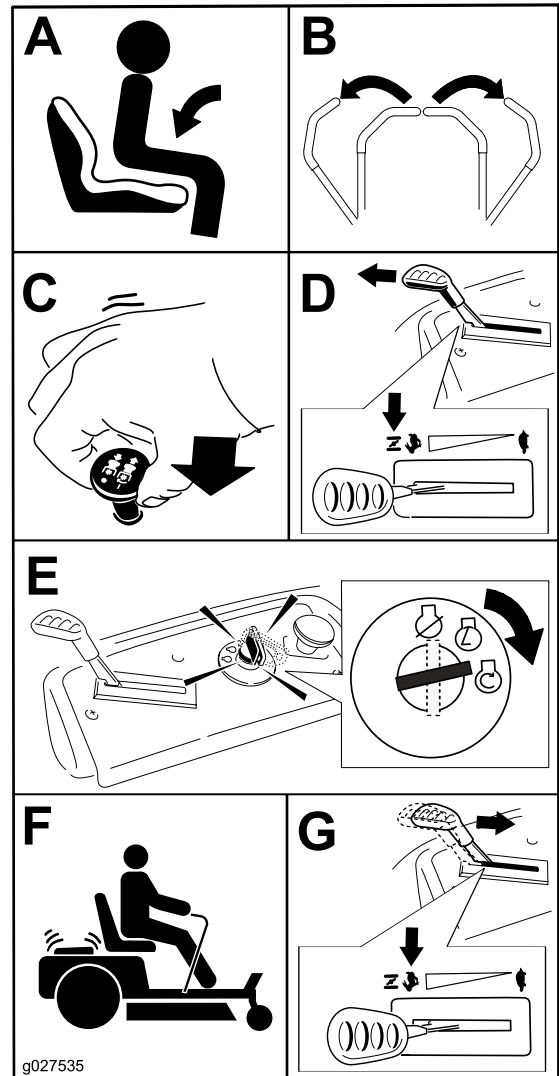

Figure 10
**Note:** It may be necessary to hold the lever against the stop, in the choke position, while trying to start the engine (Figure 10).